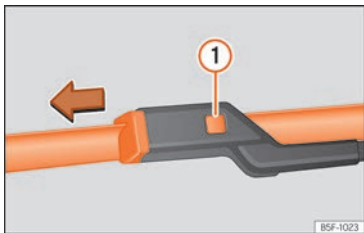

Fig. 80 Changing the front wiper blades
- Press and hold release button >>> Fig. 80 ❶ and pull gently on the wiper blade in the direction of the arrow.